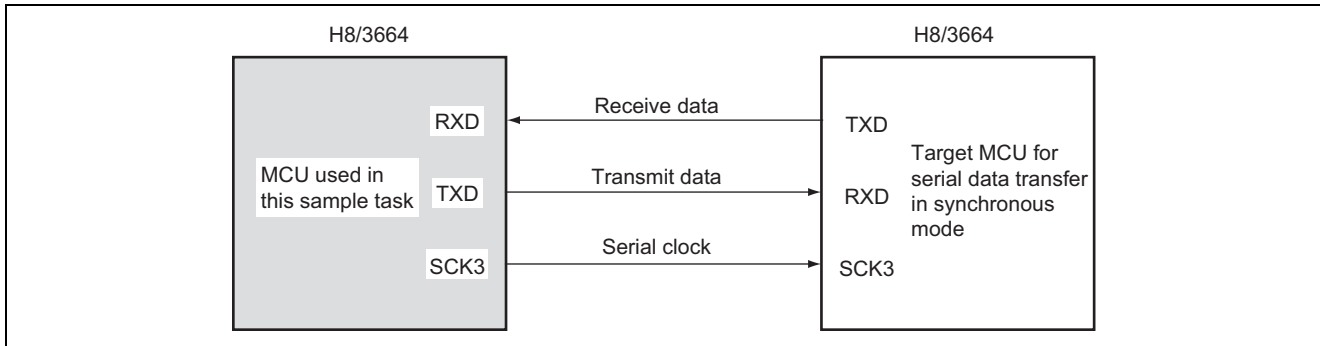

Figure 1 Simultaneous Serial Transmission/Reception in Synchronous Mode
1. Four bytes of 8-bit data are simultaneously transmitted and received by serial data transfer in synchronous mode, as shown in figure 1.